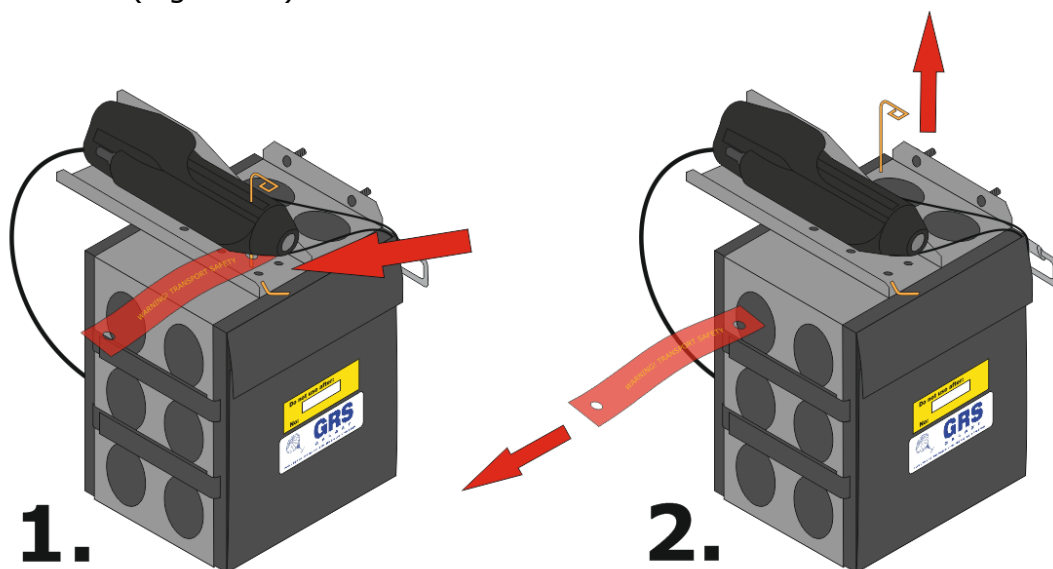

Figure 12
- 9) After the system installation you **snip the needle - safety A**, take it out and remove the flag - the **system is now secured only by the operational pin with the flag on the handle**. It is released by pilot shortly before flight and after the flight applied again so that the handle is secured against possible activation (Figure 12).